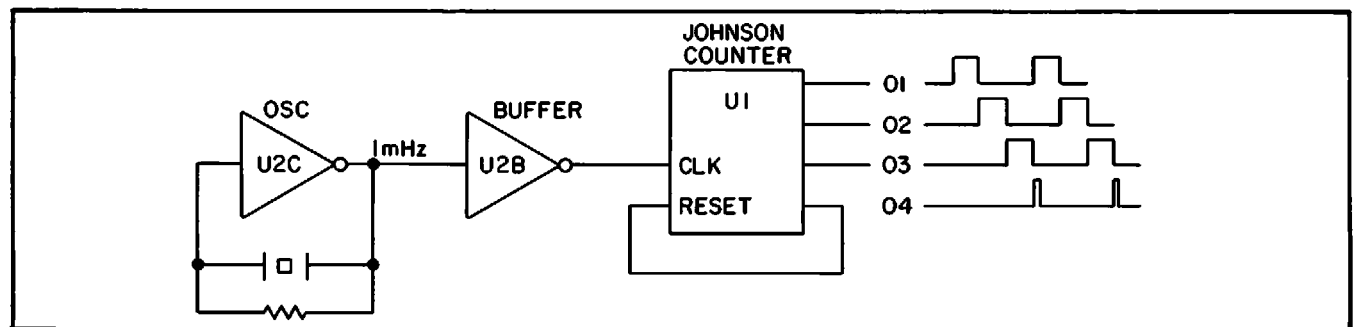

Figure 2-20
2.3.5.2 Oscillator and Johnson Counter (Fig. 2-20)